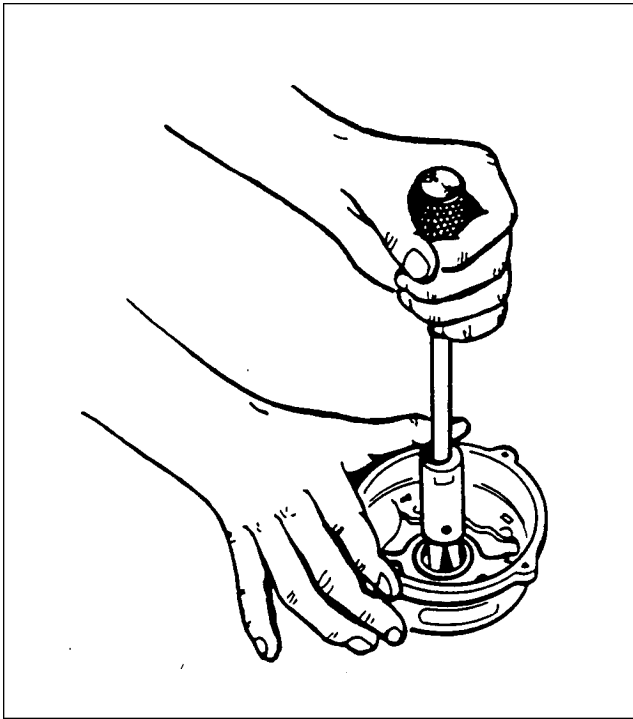

Figure 24-29. Removal of Slip Ring End Bearing
5. To remove slip ring end bearing and grease seal, it is necessary to have a hook type or impact type bearing puller as shown in figure 24-29. Do not remove bearing unless replacement is necessary.